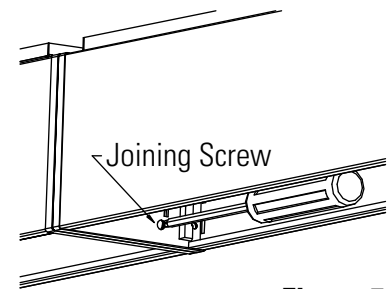

Figure 7
- C. Slide the fixture into the previous fixture. (Fig. 7)
- D. Tighten the joining screws. (Fig. 7)